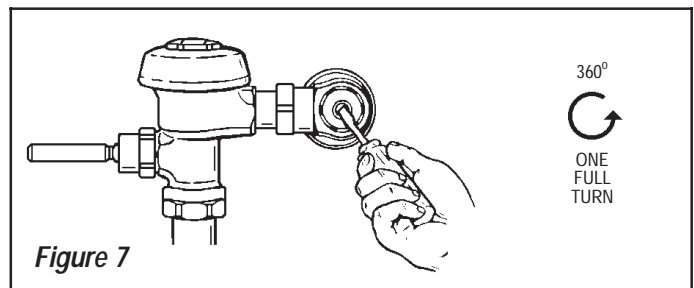

Figure 7
Step 7 — Adjust Control Stop (Figure 7)